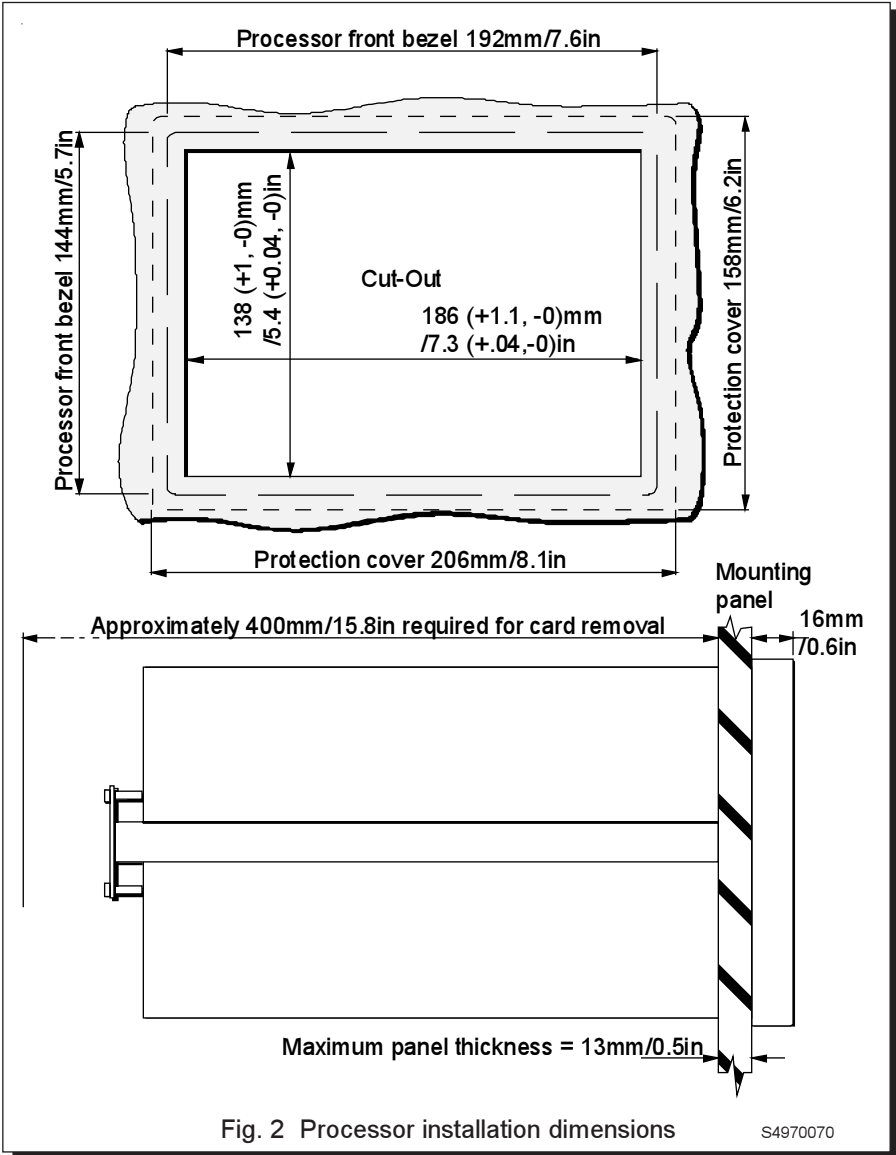

Fig. 2 Processor installation dimensions
The overall installation dimensions of the processor are given in Fig. 2.
- (i) Refer to Fig. 2. Choose an area of your mounting panel of sufficient size to contain the processor.